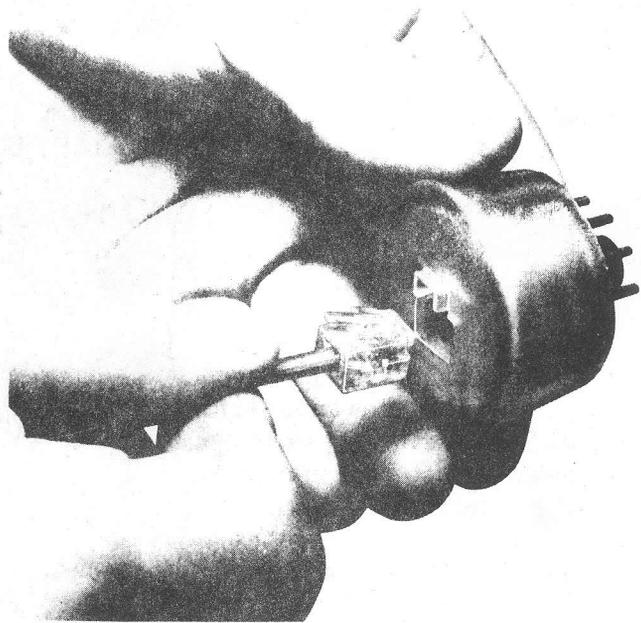

Fig. 2—224A Adapter
2.03 USOC RJA3X: Used to convert an existing 12-pin jack, such as a 541A or 551A, to a 4-pin modular jack (Fig. 5). A 224A adapter (Fig. 2) is plugged into the 12-pin jack, and the modular plug on the telephone company-provided or CP equipment plugs into the adapter. Tip and ring are always connected through to the CPE. A and A1 or other leads will appear in the adapter if wired into the existing jack. Adapter is provided by telephone company when connecting telephone company equipment, or by either the telephone company or customer when connecting CPE.